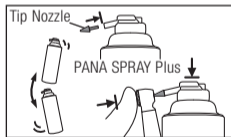

Fig. 29
- 2 Shake the can 3 or 4 times, then gently press in the push button to directly spray into the bur insertion hole (Fig. 29).